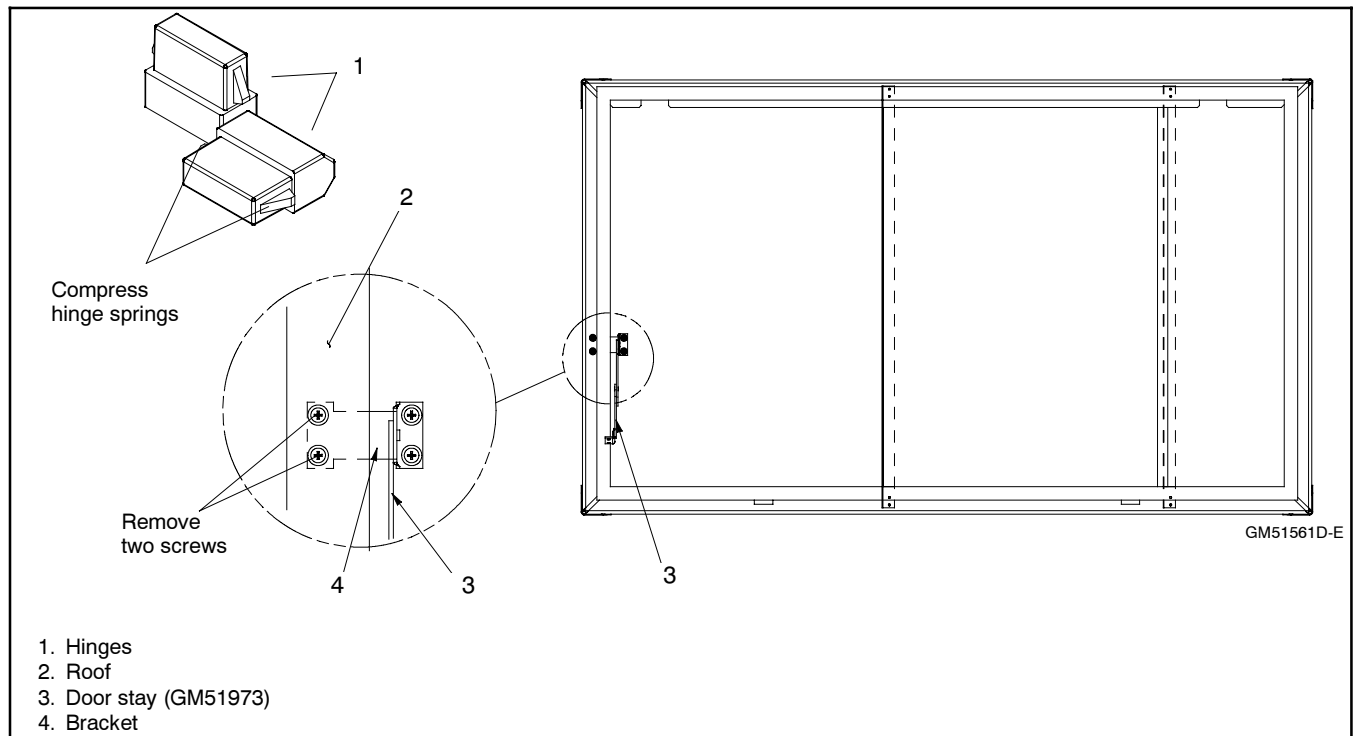

Figure 6-2 Roof Stay and Hinges
3. Remove the screws on one end of the roof stay to disconnect the roof stay. See Figure 6-2.
4. Remove one roof hinge: Use two screwdrivers to compress the hinge springs. See Figure 6-2.